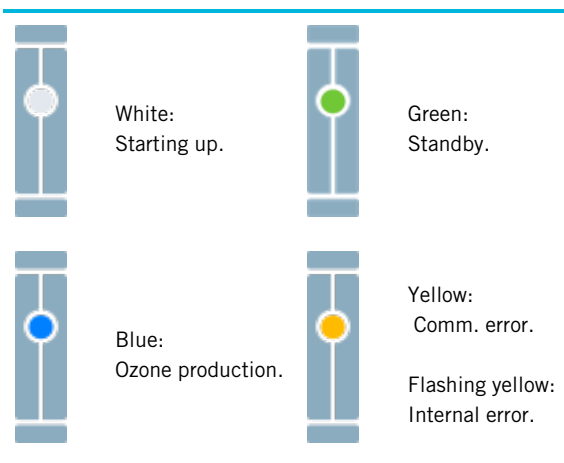

Figure 12 | The colored indicators of the MiniSEPTs.
- The statuses of the MiniSEPTs are displayed by the colored indicators in the middle of the screen, as displayed in Figure 12 ► 26.